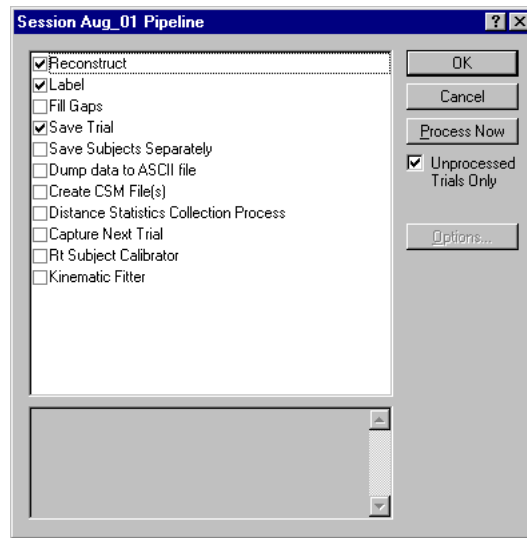

Figure 11: Pipeline Window – Multiple Trials
- 3) Select <Trial>/<Pipeline>. Check the boxes “**Reconstruct**”, “**Label**”, and “**Save Trial**”. This will reconstruct, autolabel and save the trial. Make sure “**Save Trial**” has been selected otherwise the system will reconstruct and label trial and then discard it to open the next trial (*Figure 11*).